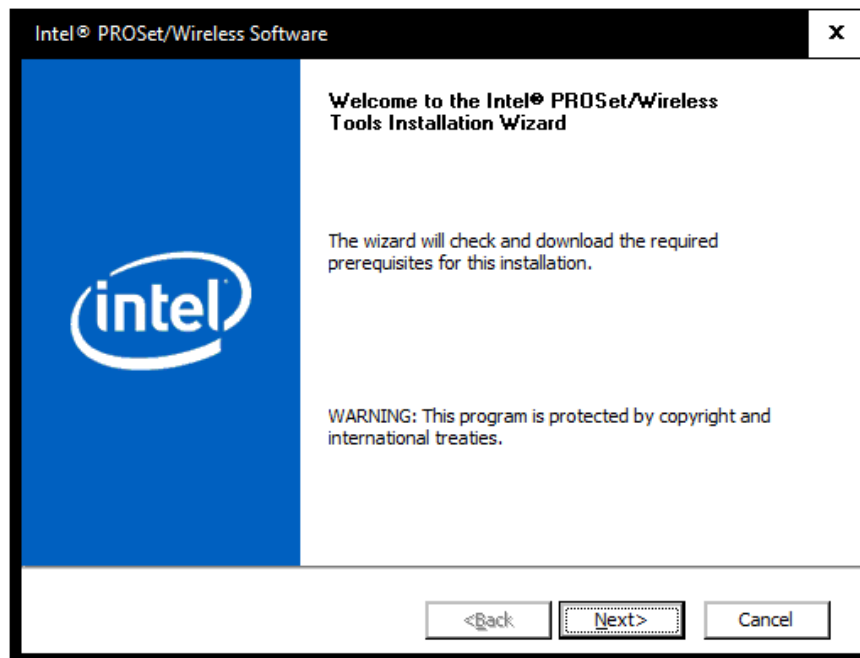

Figure 5-8: Bluetooth Driver InstallShield Wizard
Step 2: Double click the setup file in the folder. The InstallShield Wizard screen appears (Figure 5-8).